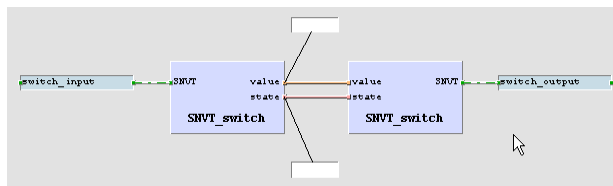

Figure 37: Online Test fields
13. Place the fields above and below the drawing as shown in Figure 37, then press the **Save** button to save your changes.